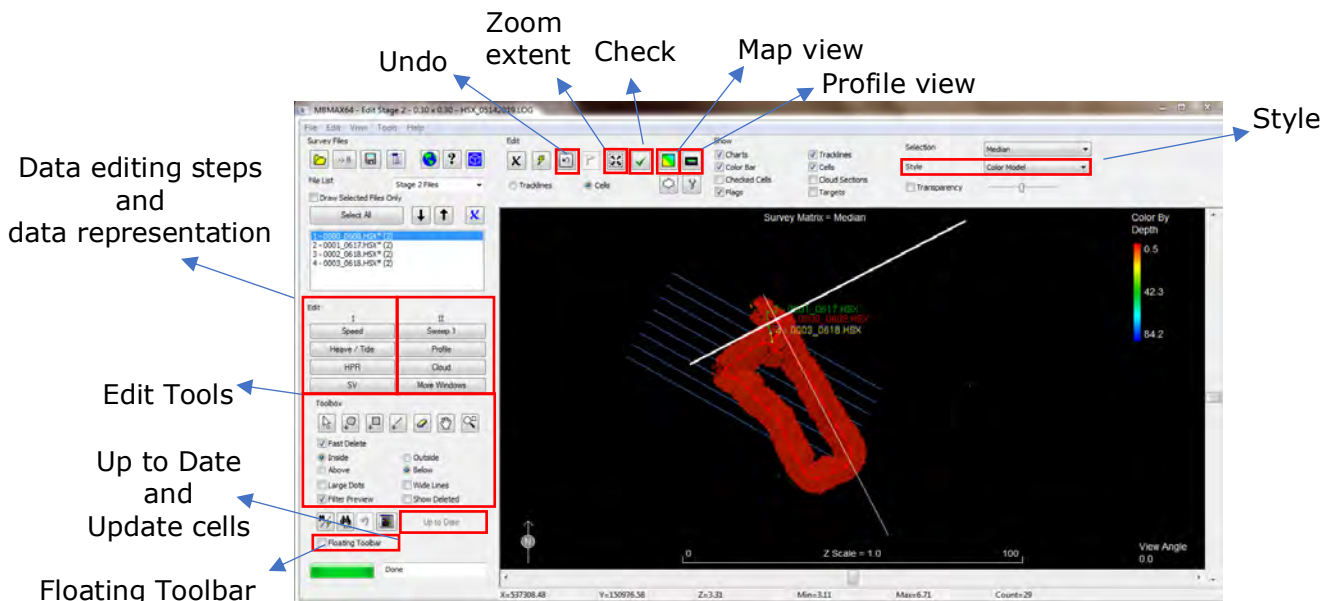

Figure 60: MBMAX64 window, 3D model and principal edit tools
11. The 3D bathymetric model will appear on the MBMAX64 main window (Figure 60)
- ⇒ Important tools (Figure 60)
IMPORTANT: after editing, the "Update Cells" button turns red (Figure 60). Always click on it to save and update modifications to your data! If you are working on a large dataset, you may choose to do multiple edit operations and recalculate only once to account for all changes at once. During the editing process, to undo the erasure, press the "Undo" button or use CTRL+Z.
- ⇒ Stage I (Figure 60): stage I editing includes several display windows allowing correction of position data (Speed velocity, Heave/tide, Heave Pitch Roll [HPR] and Sound velocity [SV]). To delete erroneous data from the graph, select the tool on the "Edit Toolbox" list (Lasso, Block, Line or Eraser), select the area that you want to delete (in reference to the drawn area) and drag the form on the graph. At this stage, there is not a real rule defining the erroneous data; in general, it is appropriate to delete the spikes!
- b. The "Sweep 1", "Profile", "Cloud" and "More Windows" buttons allow you to display the data in different ways (Figure 60). The entire dataset is displayed on several sections; you can scroll within the different sections and lines using the arrows during the cleaning operations. To check the location of a determined section, look at the white lines on the 3D model.
- In each section use the editing tools to remove any noise (click on the "Floating toolbar" option to have the editing tools on a separate window; Figure 60). Use the "Tilt" and "Rotate" tools to move the 3D model on the space. Press CTRL + Z to undo the editing operations.
- Save the edited data using the red "Update Cells" button (Figure 60). Do it periodically to preserve your work.